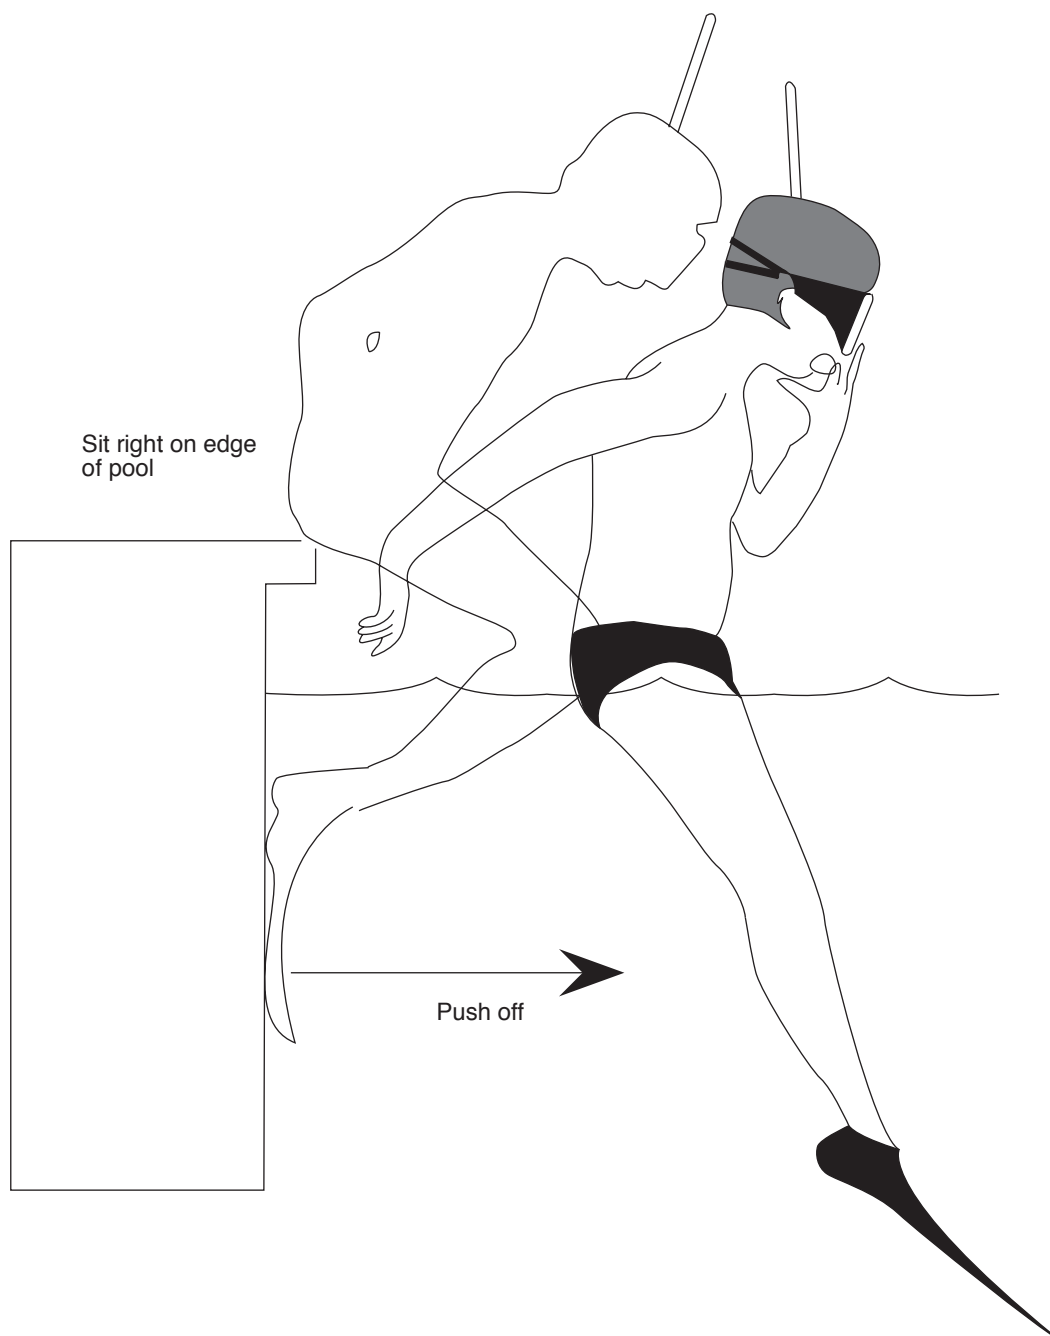

Figure 134.1 The push off entry (Adapted from British Sub aqua Snorkelling Manual)
- The push off entry as shown in Figure 134.1. Position yourself right on the edge of the pool with your fins right against the pool wall. Hold your facemask with one hand and push off with the other.